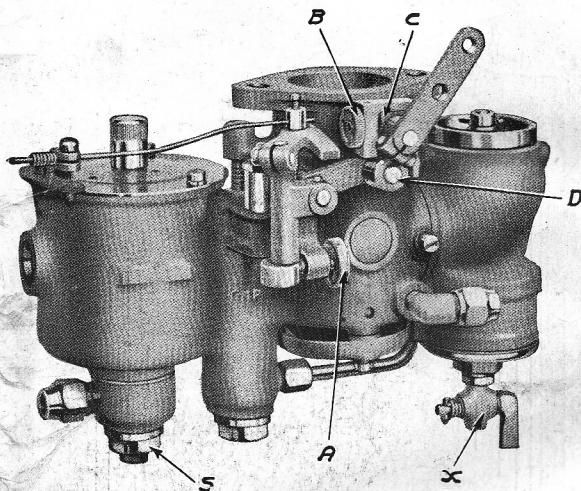

Figure No. 16
When adjusting for low speeds the throttle should be closed, and with the dash control down, the nozzle needle should be closed by turning the low speed adjustment (A) Figure No. 16, to the left until the block (D) slightly leaves contact with the cam (C). It should then be turned to the right about three complete turns. The throttle control hand lever should now be advanced about one inch on the sector, the motor started and allowed to run until it is warm. If the spark hand lever has been advanced it should now be fully retarded and the throttle should be closed until the motor runs slowly without stopping. The final low speed adjustment may be made by turning the low speed screw to the left until the motor slows down. It should then be turned to the right a notch at a time until the motor idles smoothly. If the motor does not throttle low enough the screw in the stop arm, on the lever end of the throttle valve stem, should be turned to the left until the motor runs at the lowest number of revolutions desired.